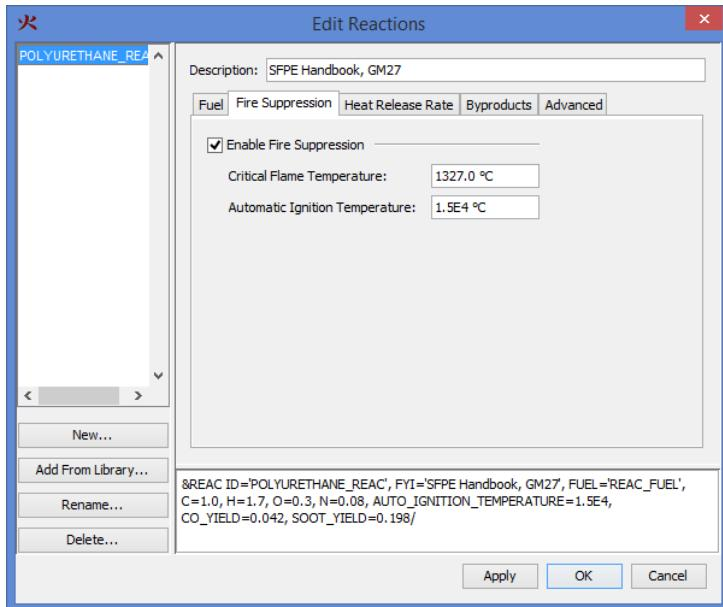

Figure 12.3. Fire Suppression panel of the Edit Reactions dialog
3. On the **Fire Suppression** tab, you can enable fire suppression and then enter values for the **Critical Flame Temperature** (CRITICAL_FLAME_TEMPERATURE) and the **Automatic Ignition Temperature** (AUTO IGNITION TEMPERATURE). The panel is shown in Figure 12.3.